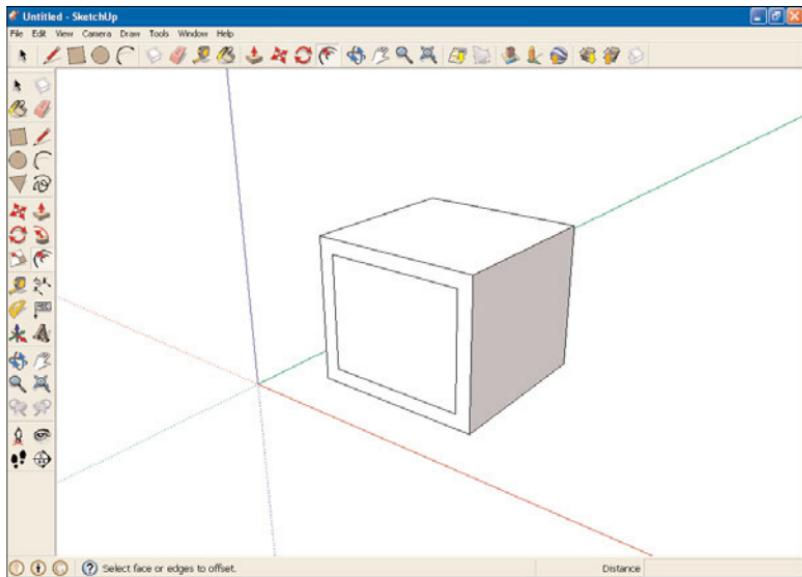

FIGURE 9.11 An offset edge.
5. Draw an offset edge on one surface of the cube. You can see an example in Figure 9.11.